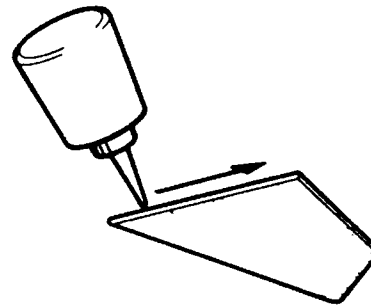
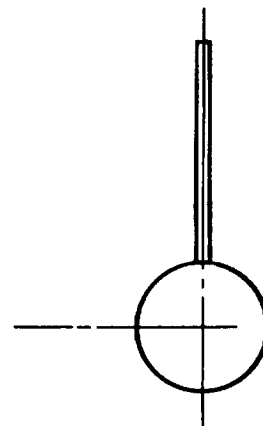

Fig. 4
Fig. 5
- D Place a line of glue along the root edge of a fin (Fig. 4). Place the fin on the rear of the tube along the alignment marks. Set aside until the glue has set. Be sure that the fin is sitting at 90° to the tube when viewed from the end (Fig. 5).